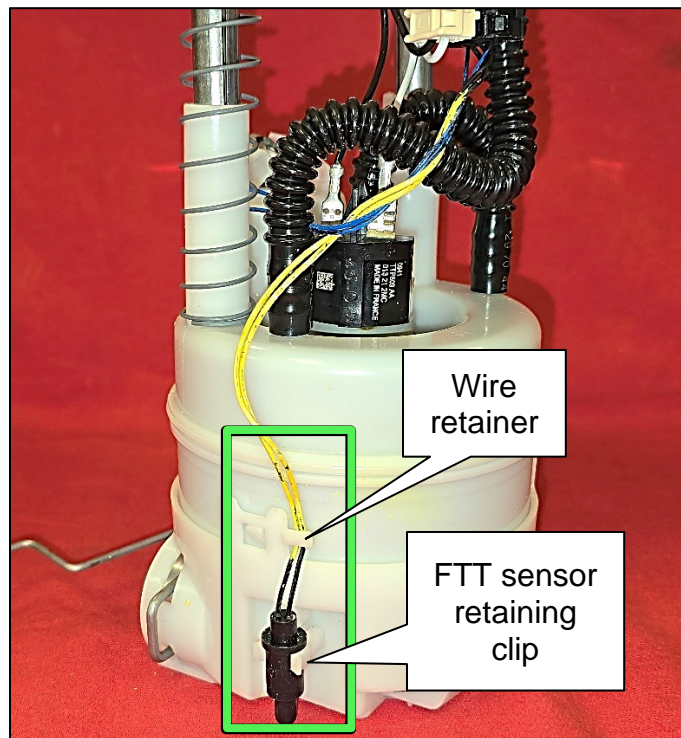

Figure 10
15. Place the FTT sensor wiring harness into the wire retainer and then install the FTT sensor into the retaining clip as shown in Figure 10.